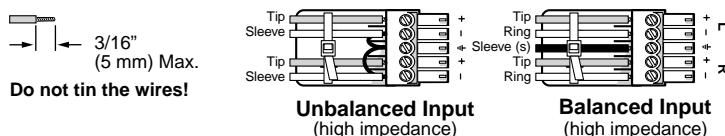

Figure 2-9 — Captive screw connector wiring for input
- ⑥ **3.5 mm, 5-pole captive screw connectors** — Connect balanced and unbalanced stereo audio inputs to these connectors using captive screw connectors which are included with each MMX VA and SVA (non RCA) switcher (you must supply the audio cable). Figure 2-9 shows how to wire a connector for the appropriate input type and impedance level.